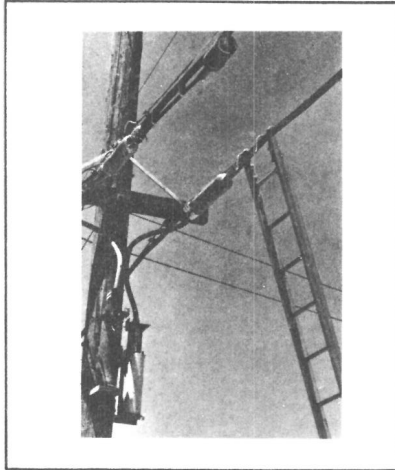

FIGURE 9. Ladder Hooks on Cable Strand
4.10 When the ladder is to be used on aerial cable, turn the hooks to the working position before the ladder is raised. Ladder hooks should be placed on the cable strand as shown in Figure 9, unless the ladder is to be lashed to the strand as covered in paragraph 13.